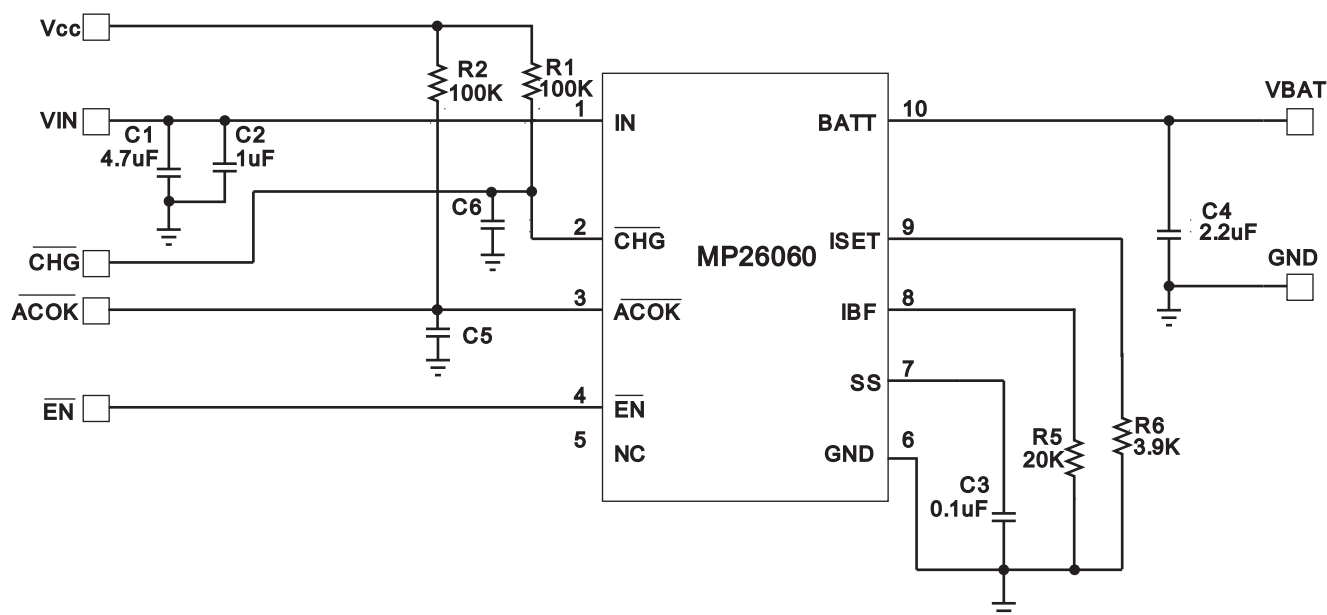

Figure 5—Filtered Charge Status & Input Power Good Interface
When interfacing with the system, glitches may occur on the power supply input (IN) when the AC-power adaptor is plugged in and out. It is desirable to blank the glitches so that the system can properly operate with AC power adaptor. A simple Solution is to add the RC filter (C5 and C6) on the pin $\overline{ACOK}$ / $\overline{CHG}$ as shown in Figure 5. The size of C5 and C6 depends on the width of the glitch and the rise time of the interface.
Power-On Reset (POR) feature can be applied to the MP26060 to ensure that the device starts operating in a known state. The flow chart in Figure 5 describes the conditions and operation